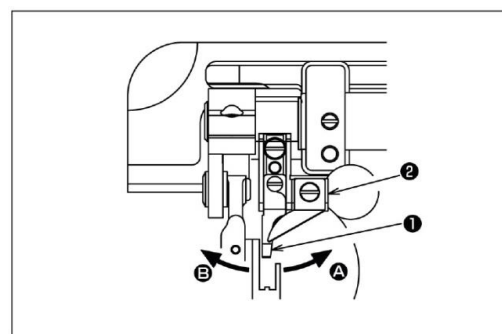

Fig.26
Adjust the counter knife by moving counter knife blade (1) or knife mounting base (2) in the direction „A“ or „B“. See figure 26.